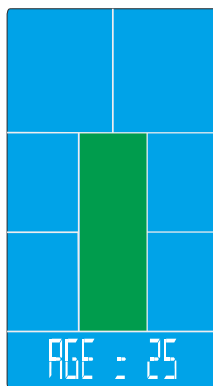

FIGURE 16
- If select CARDIO function(15), press MODE confirm to next step, and press UP/DOWN to set age, and then press MODE confirm to next screen (Figure16). Set CARDIO 55%~TAG (Figure17). Press UP/DOWN to choose CARDIO 55%, and press MODE confirm to enter this mode. And press UP/DOWN to adjust and set TIME or press START directly to start workout. When there is no PULSE signal input in six seconds after START is executed, LCD will display "PULSE INPUT" to prompt the user (Figure 18).